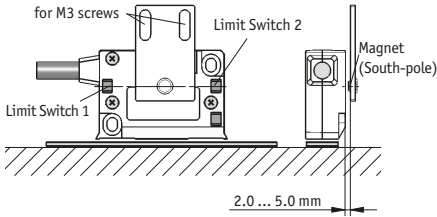

Fig. 7: Limit switch magnet
- When mounting the magnetic sensor, ensure that the gap between strip & sensor and the max. admissible deviation are maintained over the total measuring length (see fig. 7)!
Following proper installation and wiring, the measuring system can be commissioned by switching on the supply voltage. After switching on, the device initializes itself independently. The "power" LED (green) in the sensor housing lights up. While the magnetic sensor travels over the magnetic strip, the LEDs Sin, Cos, and I/R (red) are lighting accordingly. L1 or L2 are glowing as long as the respective limit switch magnet is actuated (see fig. 7).